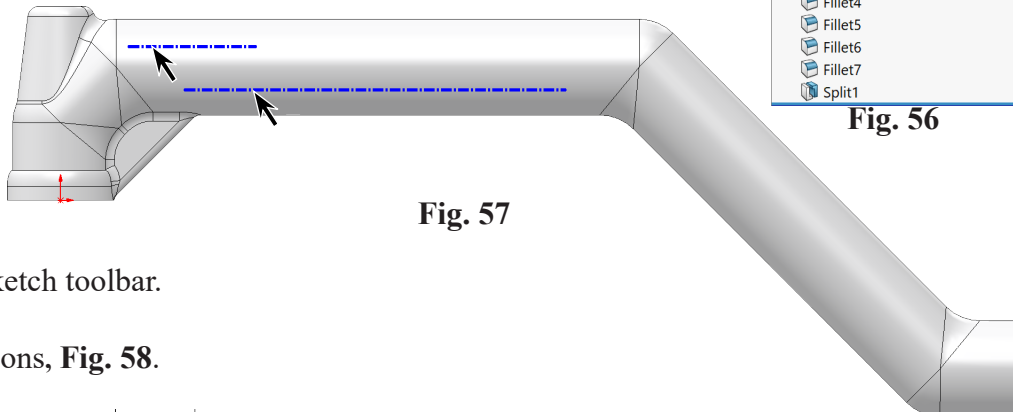

Fig. 57
Step 4. Sketch two horizontal centerlines across horizontal section of Sweep, **Fig. 57**.